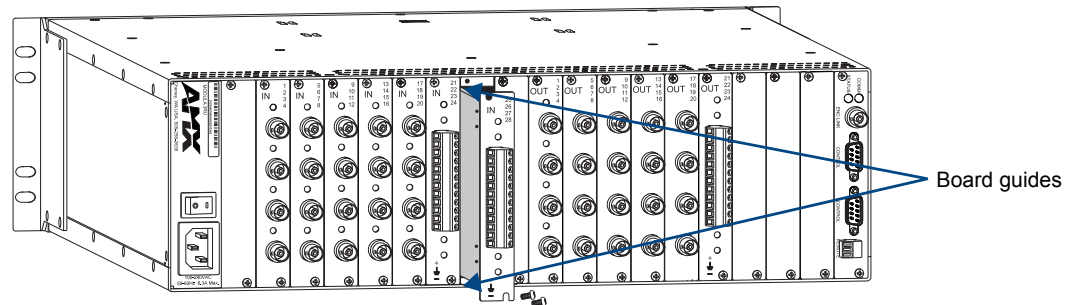

FIG. 110 Line up board with guides and push until flush with back
1. Line up the new board with the board guides that are on the top and bottom of the board slot (FIG. 110). Note that for 4 RU enclosures, some boards use the bottom board guide only (FIG. 111).